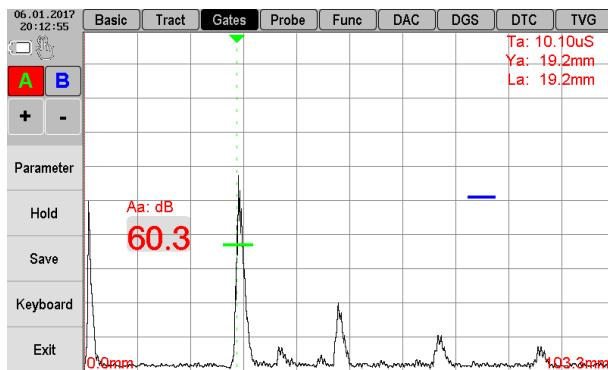

Figure 2.42 – Turning on the parameter displaying: signal amplitude in A-gate
6. Turn on parameter of signal amplitude in A-gate – Aa (Figure 2.42).